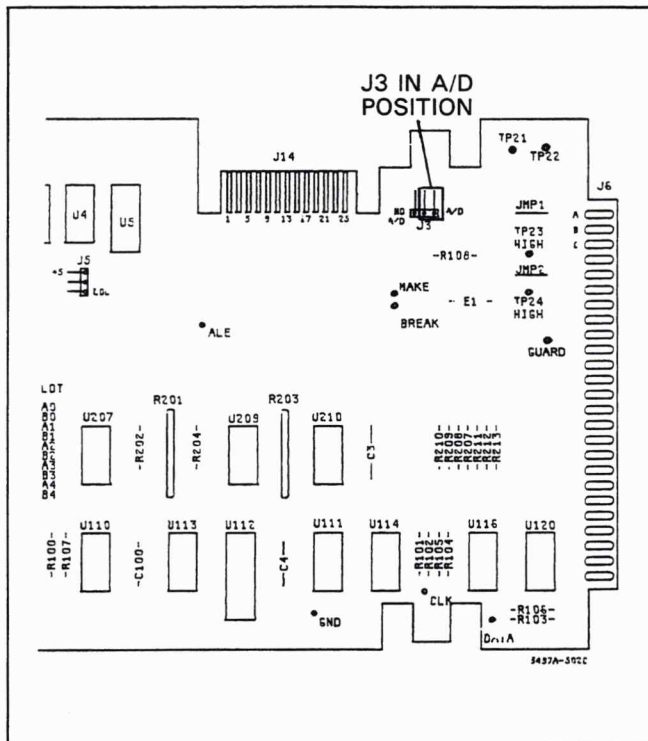

Figure 2-9. A/D Jumper Configuration
- g. Locate the A/D Jumper (blue jumper plug, J3) on the inguard controller board shown in Figure 2-9. Place the jumper in the "A/D" position, as shown in the figure. Continue with the next paragraph to reinstall the Inguard Controller Board.